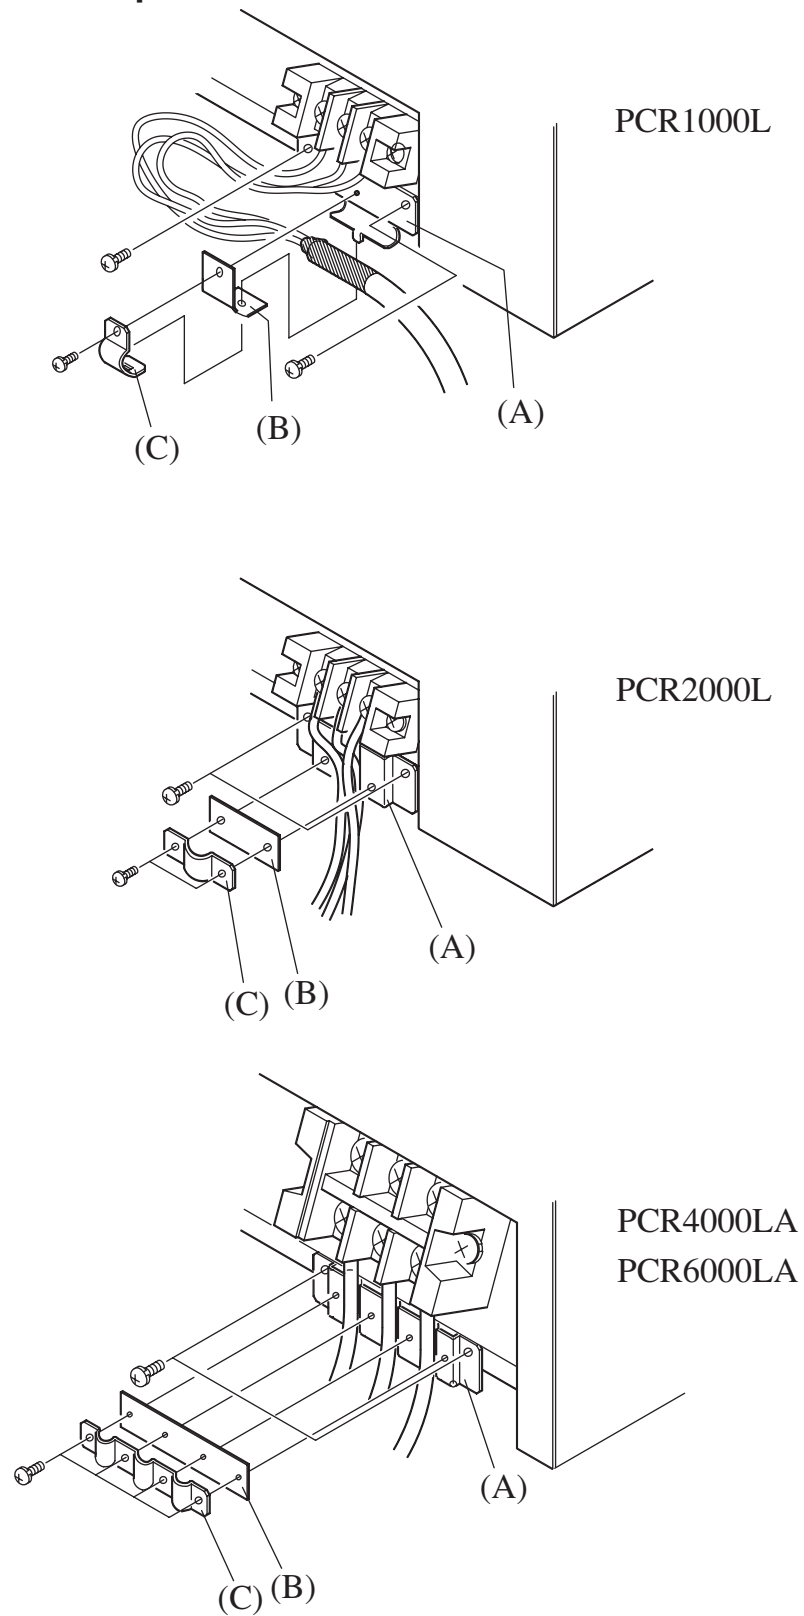

Fig. 2-11 Installing a Cable Clamber
5. Install the cable clamber provided, and fix the input power cable securely (Fig. 2-11).